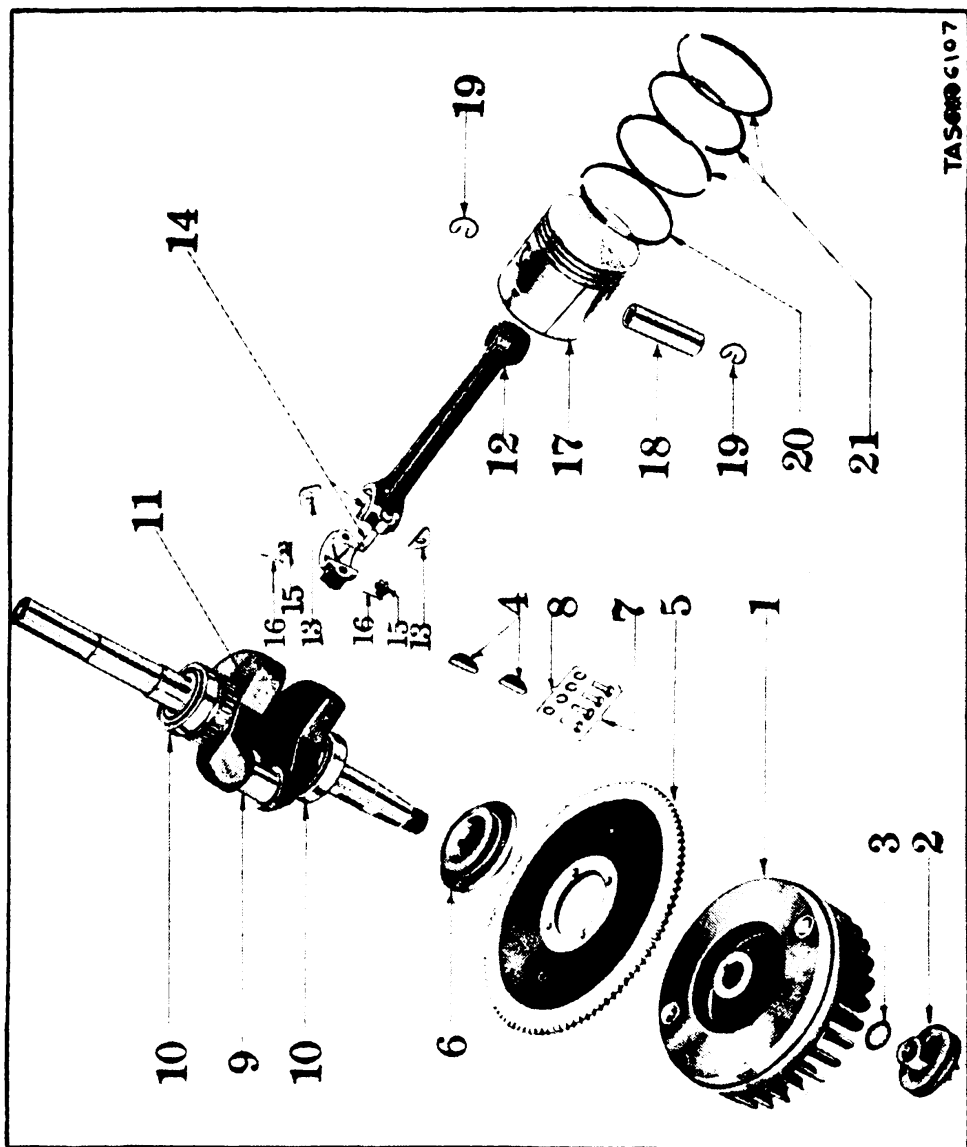

Fig. 107. Engine Crankshaft, Connecting Rod, Piston, and Flywheel.
b. Engine connecting rod and piston. (See fig. 107.)
(1) To expose.